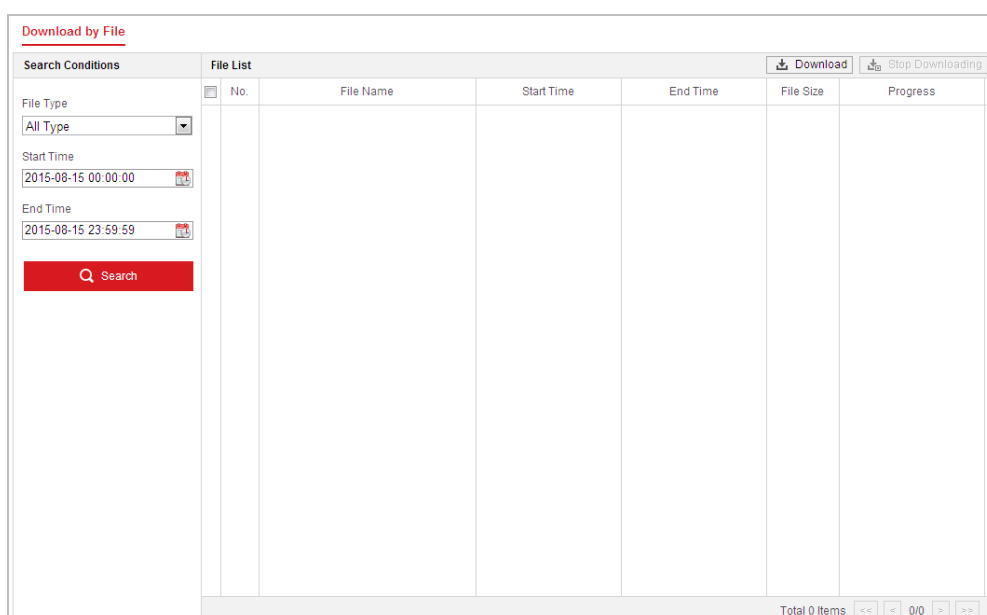

Figure 4-19 Video Downloading interface
1. Click  on the playback interface. The pop-up menu is shown in Figure 4-19.